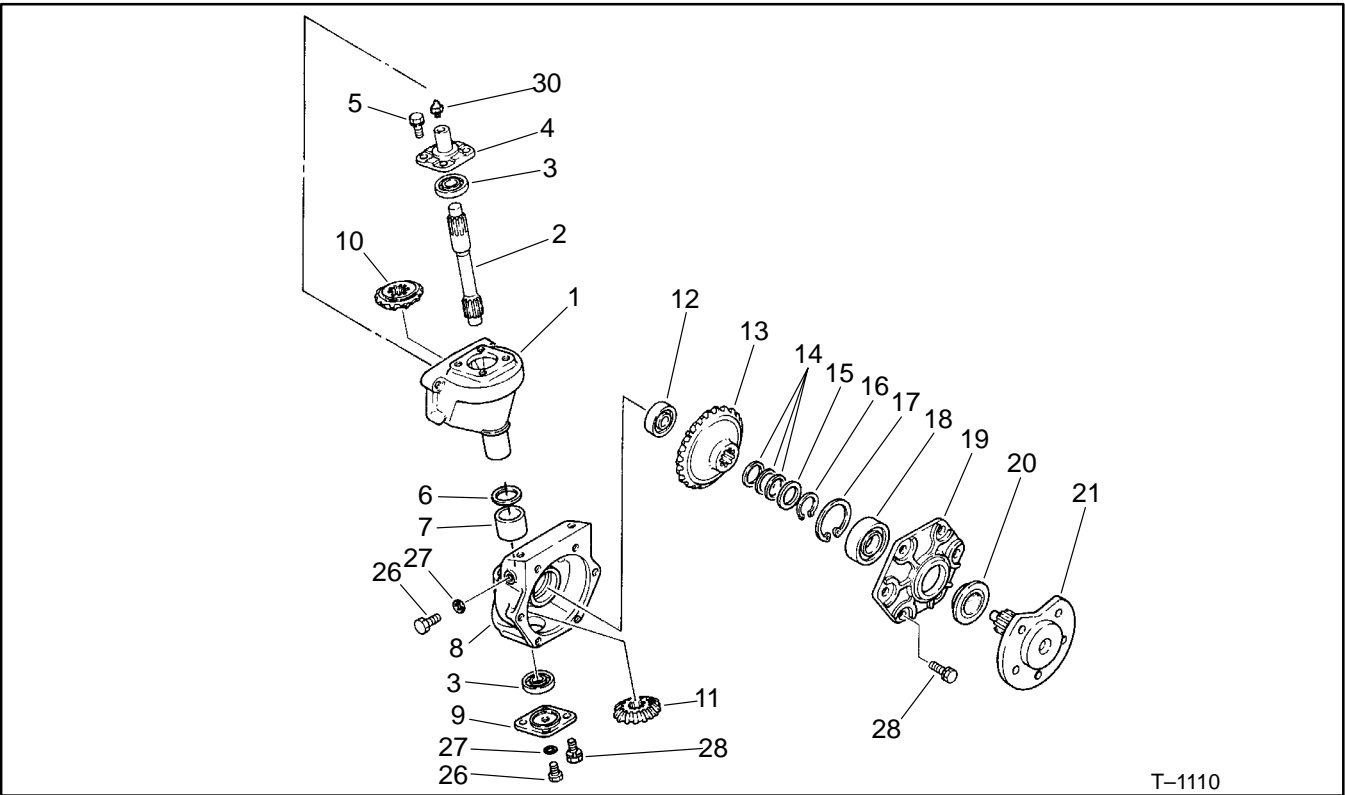

Figure 17
1. Remove bearing holder (Fig. 17, Item 19) from final drive case. The holder will come out together with the wheel shaft (Item 21).